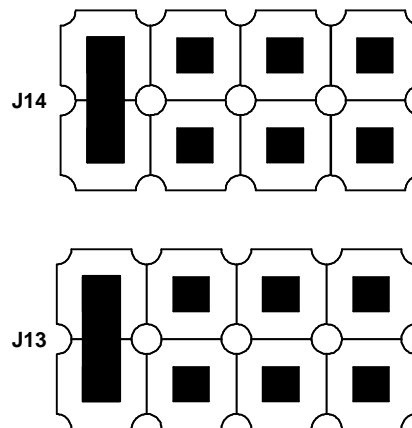

Figure 14. Jumper Settings for J13 and J14 on 5-6K Interface Board
- Make sure that the jumpers on the 5–6K Interface Board are set according to the following Figure 14 and Table 14: